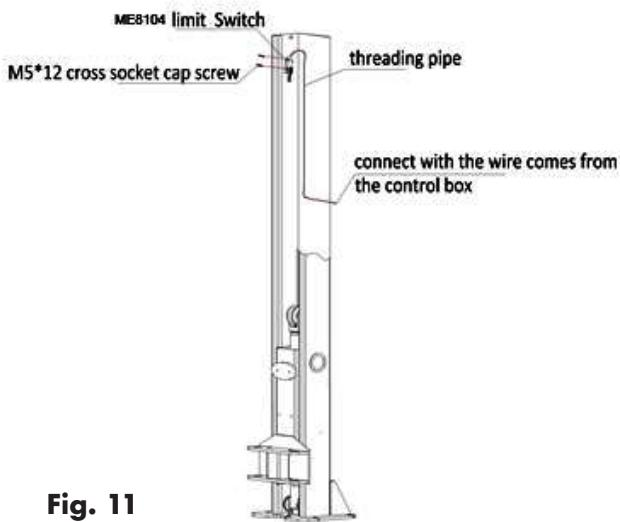

Fig. 11
2. Fix the limit switch into the power side post (fig. 11). Picture E on page 45 shows the screws that must be used.